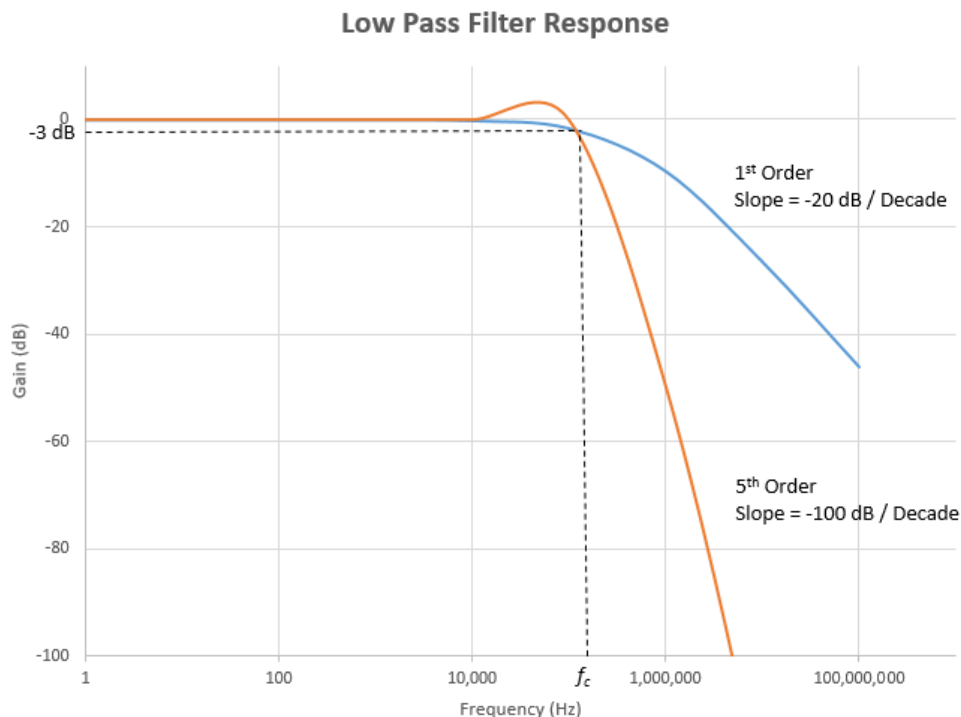

Figure 4.2. Low Pass Filter Response
When an ADC is used to sample real time data, it is important to limit the frequency content of the input signal in order to maintain fidelity of the signal that is being processed. Typically, a low-pass filter is used with corner frequency ( $f_c$ ) set to the Nyquist frequency which is half the sampling frequency ( $f_s$ ). Signal processing applications often utilize a multiple order low-pass filter (such as a fifth order or more) to effectively block frequency content above  $f_c$ . The discussion of such filters is beyond the scope of this technical note. Instead, a single-order resistor-capacitor (RC) low-pass filter is discussed. RC low-pass filters attenuate frequency content above  $f_c$  at the rate of -20 dB/decade as shown in Figure 4.2.